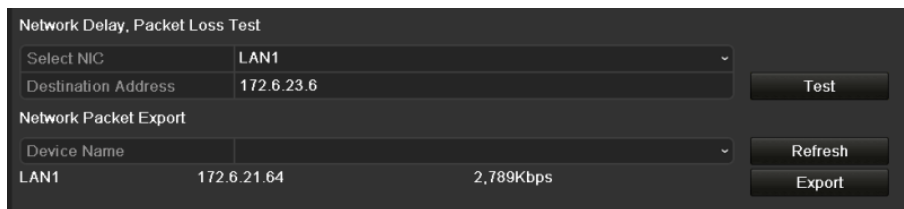

Figure 10-24 Network Detection Interface
Step 2 Click the **Network Detection** tab to enter the Network Detection menu, as shown in Figure 10-24.